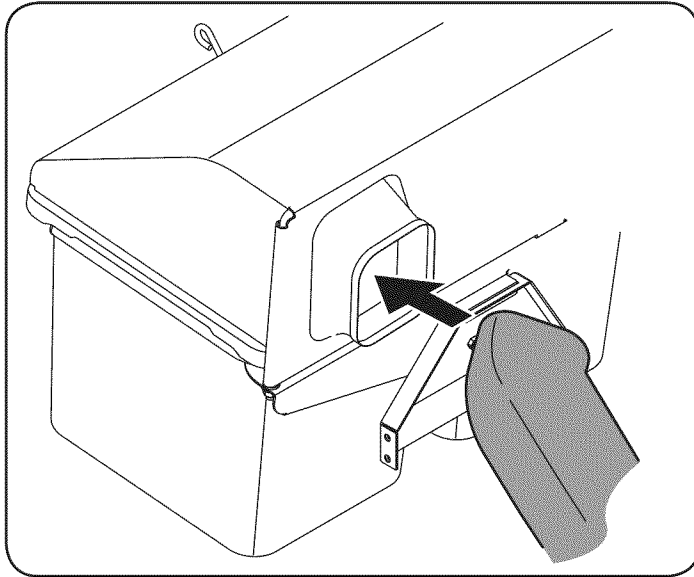

Figure 7
6. Insert the chute tube through the grass-catcher hood, in the opening provided. It is easiest to feed the end of the tube into the opening with the chute tube flipped upside down, then rotating right-side once inserted into the hood. See Fig. 7.